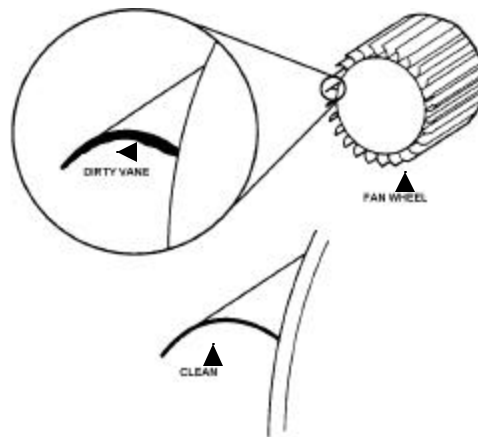

Figure 3, The fan, or blower wheel must be free of dirt.
Step 12: Blower Assembly. The blower fan requires some attention at least annually. Clean the blower by using a dry rag to remove any dust or accumulation that has formed on the fan blades then vacuum left over accumulation. It only requires a small amount of dust buildup to drastically reduce the air output of the fan. Therefore, dust or lint in the air will clog the blower wheel (Figure 2). The wheel can be cleaned by removing the motor from the housing and using a screwdriver blade to scrape the dirt off the wheel (Figure 3).